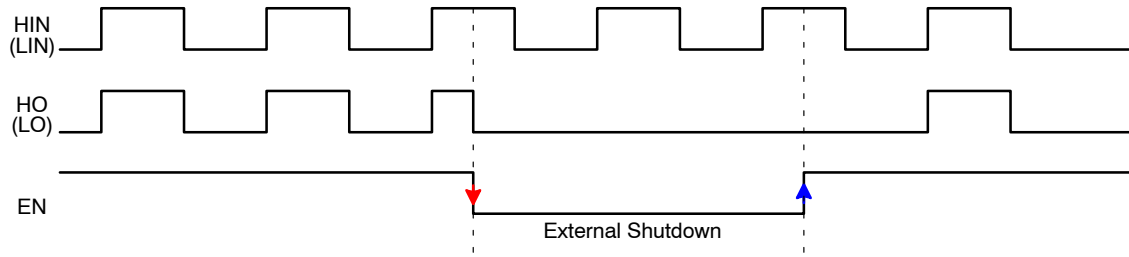

Figure 27. Timing Chart of Enable Function
Enable (EN) is internally pulled low to SGND so the driver is always defaulted to a disabled output status. Similar to HIN and LIN, EN is a Schmitt trigger TTL compatible input. Pulling the EN pin above 2.5 V maximum, enables the outputs, placing the NCP51820 into an active ready state. Due to the nature of high-speed switching associated with GaN power stages, and for improved noise immunity, it is recommended to connect the EN pin to VDD through a 1 k $\Omega$  (or less) pull-up resistor. For applications where the EN pin is actively controlled, the EN pin can be driven direct but should be bypassed with a 10 nF decoupling capacitor. As shown in Figure 27, if EN is pulled low during normal operation, the driver outputs are immediately disabled, even terminating an active HIN or LIN pulse mid-cycle during the on-time. When EN is toggled high, during normal operation, a cycle-by-cycle, edge-triggered logic function is employed to prevent shortened, erroneous control pulses from being processed by the output. This behavior is highlighted in Figure 27, where EN transitions high at the same time the HIN (or LIN) input pulse is high. In this way, the NCP51820 is intelligent by waiting until the next rising edge to process the full input signal to the output driver stage.